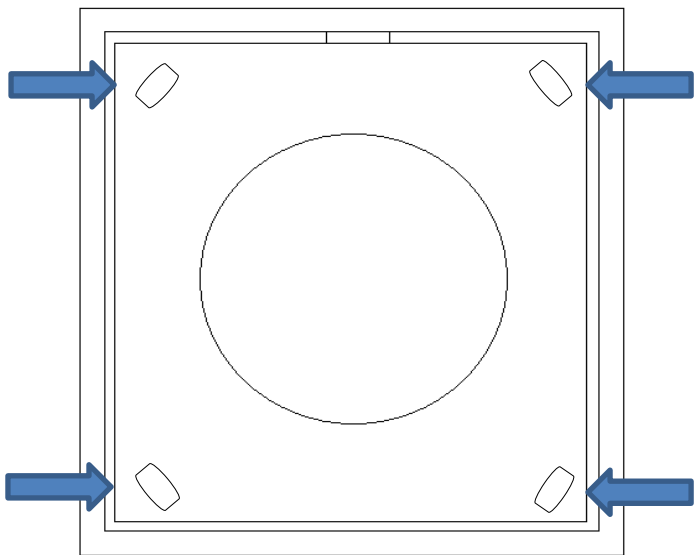

Fig.4
2. The preformed holes for fixing the internal grille to the internal wall will be located at each corner of the backplate – refer to *Fig.4*.